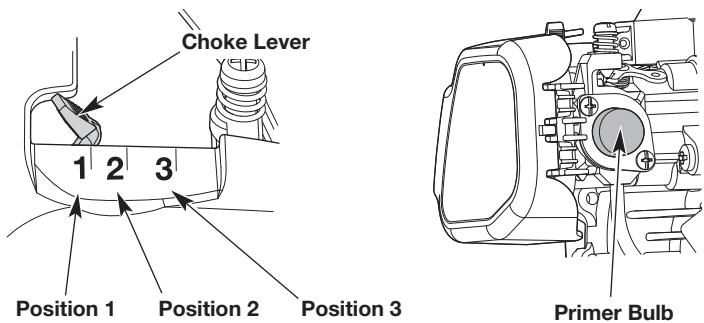

Fig. 7
3. Slowly press and release the primer bulb **10 times** (Fig. 7). If fuel cannot be seen in the primer bulb, press and release the primer bulb until fuel is visible.
4. Move the choke lever to **Position 1** (Fig. 7).
7. Continue to squeeze the throttle control. Move the choke lever to **Position 2** (Fig. 7).
10. Continue to squeeze the throttle control. Move the choke lever to **Position 3** (Fig. 7) and continue warming the engine for an additional 60 seconds. The unit may be used during this time.
- IF...** the engine hesitates, return the choke lever to **Position 2** (Fig. 7) and continue the warm-up.
8. Continue to squeeze the throttle control. Move the choke lever to **Position 2** (Fig. 7).
12. Continue to squeeze the throttle control. Move the choke lever to **Position 3** (Fig. 7) and continue warming the engine for an additional 60 seconds. The unit may be used during this time.
IF... the engine hesitates, return the choke lever to **Position 2** (Fig. 7) and continue the warm-up.